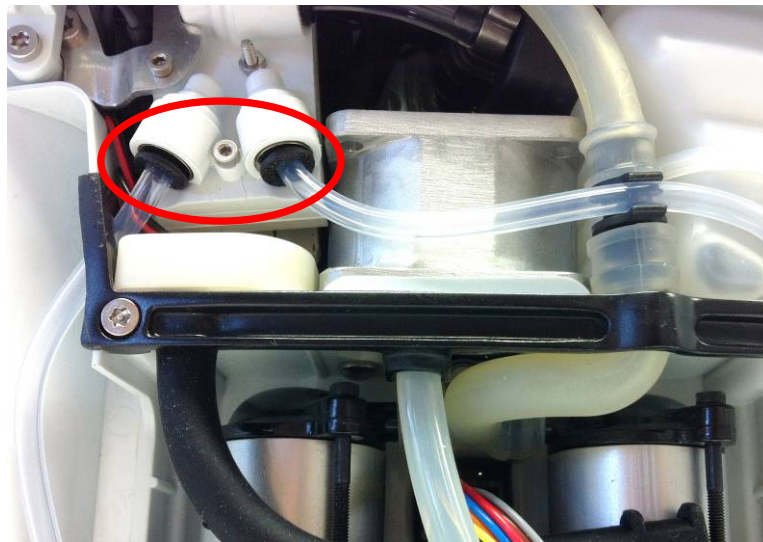

Figure 7: Manifold quick connects for receptacle tubing
4. Reattach the receptacle tubing to its quick connect on the manifold (Figure 7). Gently pull on the tubing to ensure a complete connection.